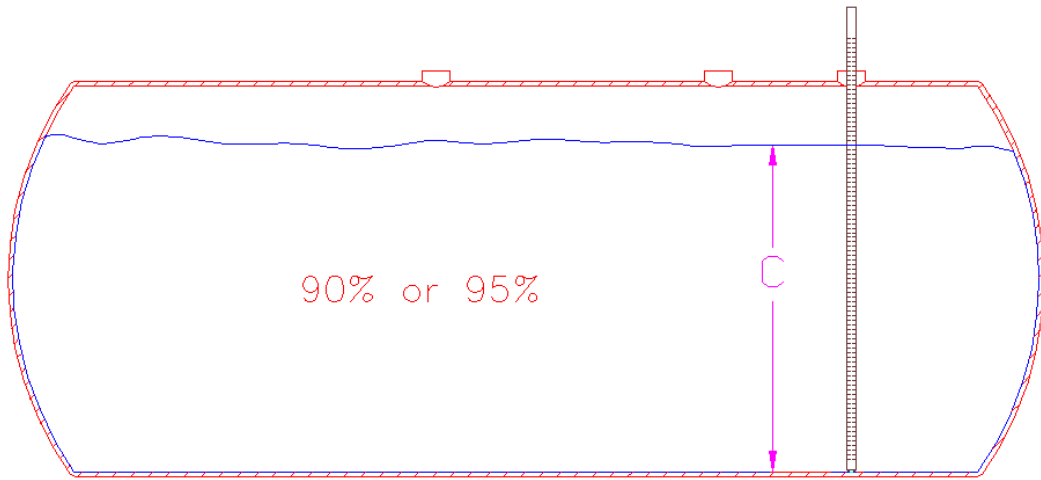

Figure 3 Height C for fill Capacity
2. Determine whether a 90% or 95% capacity fill is require, and refer to the tank specification manual to locate the height of 90% or 95% capacity fill as shown in Figure 3.